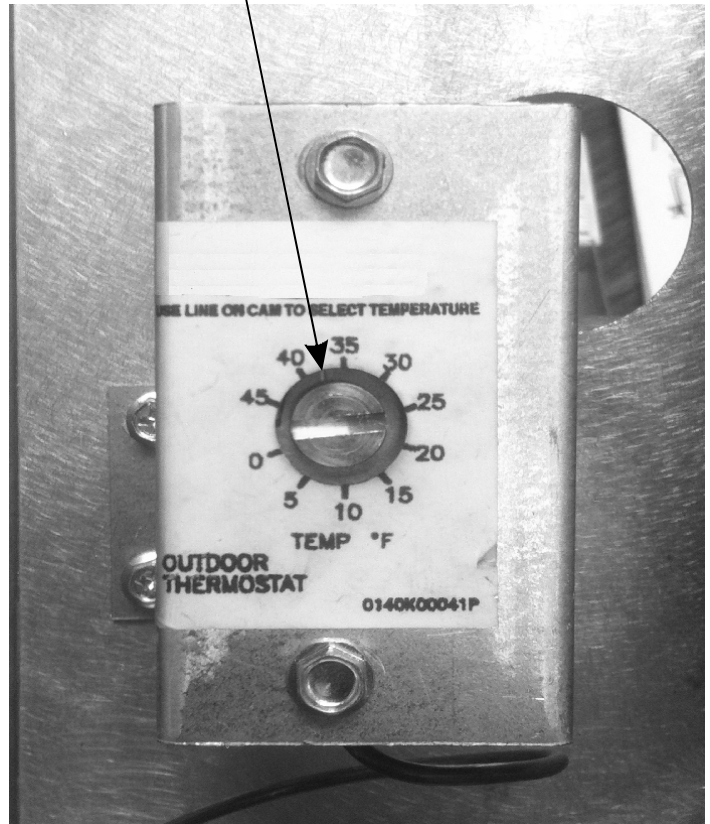

Figure 2
9. Set the outdoor thermostat to the desired level using a flat head screw driver (see Figure 2). The setting will determine the temperature at which the unit will switch from mechanical heat with the heat pump to gas heat using the gas furnace. In most cases, it is recommended that the setting be in the range of 35°F – 40°F depending on the cost of local utilities.